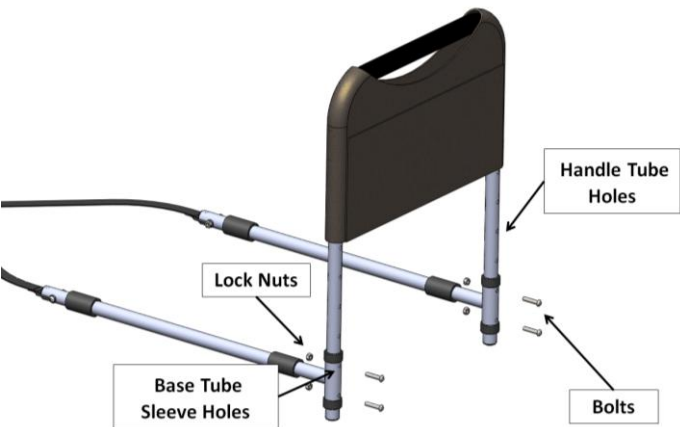

FIGURE 4
4. Align the holes of the Handle Tube and the Base Tube Sleeves and insert the Bolts through these aligned holes as show in Figure 4.